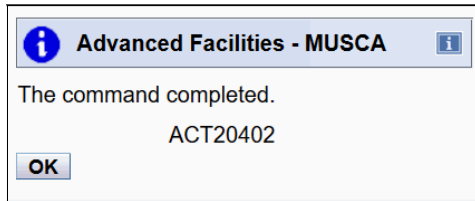

Figure 7-24 Import file successful
- The next window (see Figure 7-24) indicates that the source file import is complete. Click **OK** to continue. Then, remove the USB flash drive.